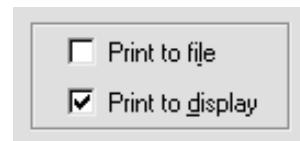

Figure 52. Checkboxes.
- **Checkboxes** (Fig. 52) are another common feature, allowing one or more of the options